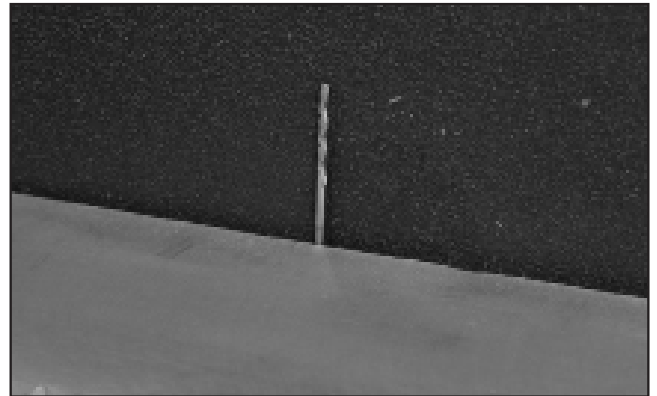

Fig. 5
1. You can check the table distance with a 1/16" drill bit: try to insert the bit between the table and the disc, and it should barely fit into the space (Fig. 5). If adjustment is needed, follow the instructions below.